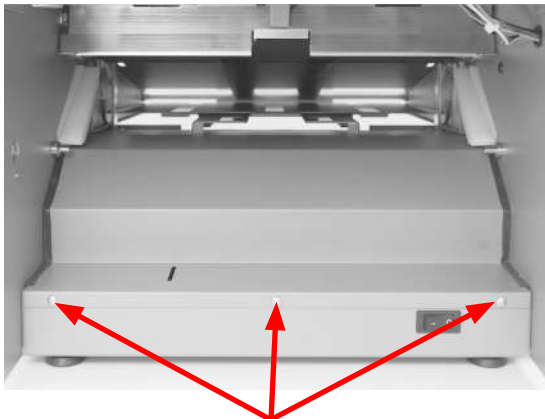

Fig. 47
4. Remove three screws holding the component access panel in position (Fig. 47).